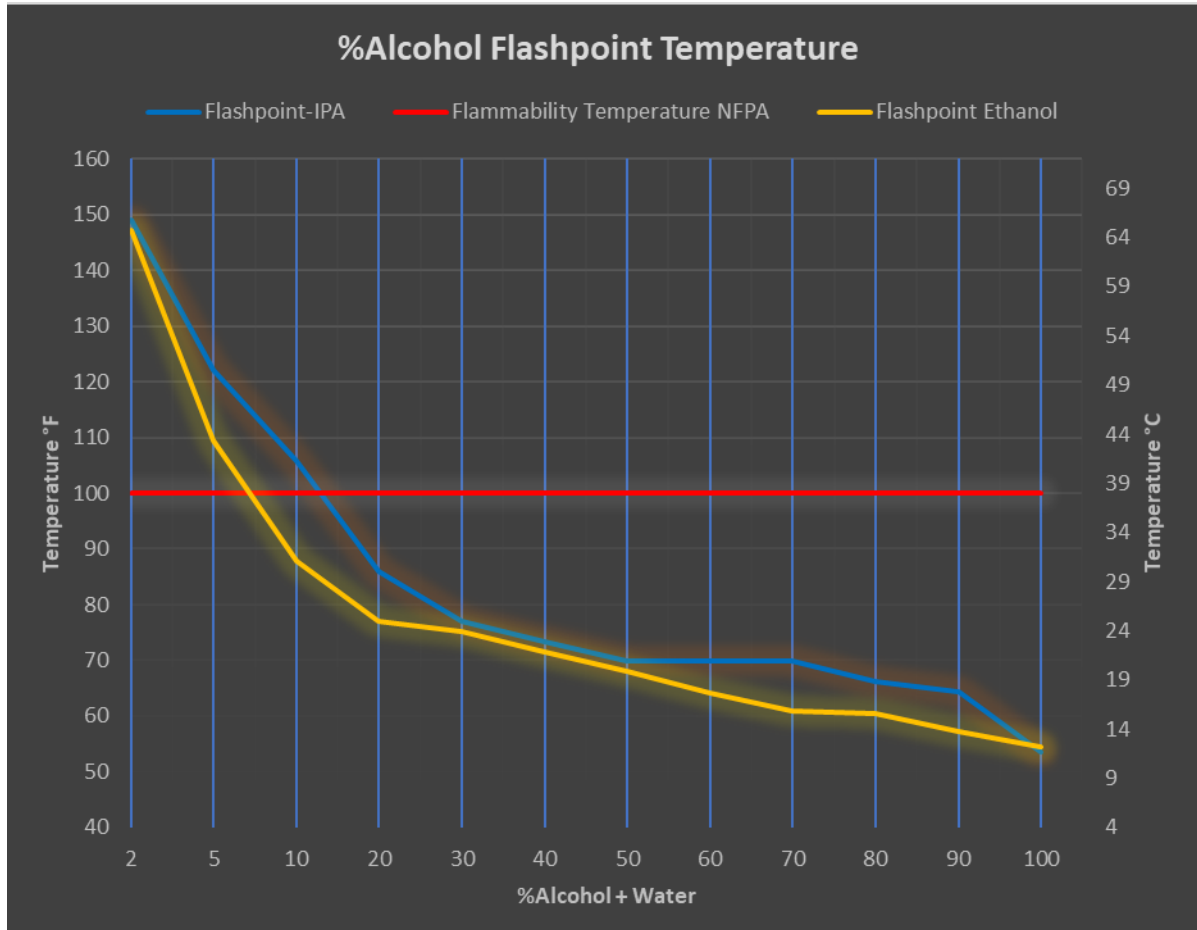

Figure 37 – Alcohol + Water Flashpoint Temperature
- VIII.8.2.a Reviewing **Figure 37** (Astbury, G.R. & Bugand-Bugandet, J. & Grollet, E. & Stell, K.M. (2005), *Flash points of aqueous solutions of flammable solvents. Institution of Chemical Engineers Symposium Series. 505-522 (7)*), at 2% IPA + Water solutions are classified as combustible with a flashpoint of 65°C/149°F. At greater than **~7.5% Ethanol** or 10% IPA +Water solutions are classified as flammable with a flashpoint less than 100°F/38°C.